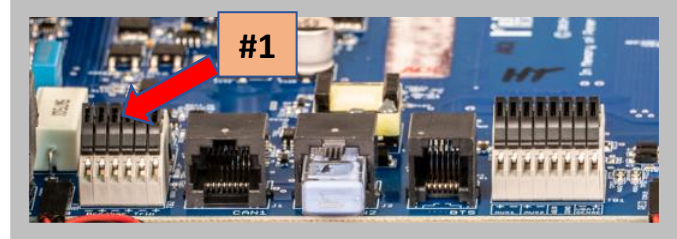

Figure 8
## Pre-Installed Wiring (Figures 8, 9, 10, & 11)
### PV Breaker Trip Wires (Figures 8 & 9)
2. Raise the Barcelona's terminal block clamp levers (**Figures 8 & 9, #1**) marked "Breaker Trip."